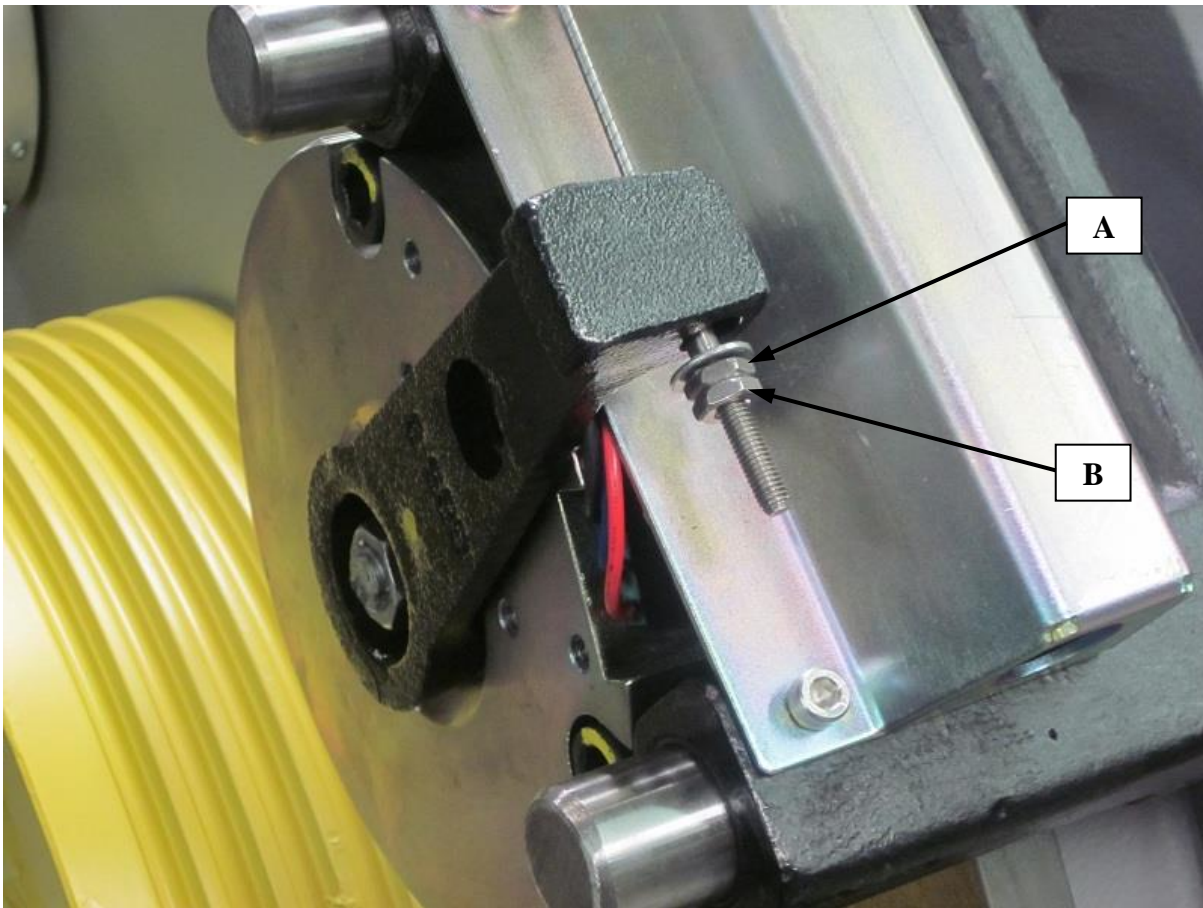

Figure 4
- With the brake release handle un-actuated, adjust nut, "A", in Figure 4 to take the slack out of the cable, but not tight enough to actuate the manual release arm on the brake.